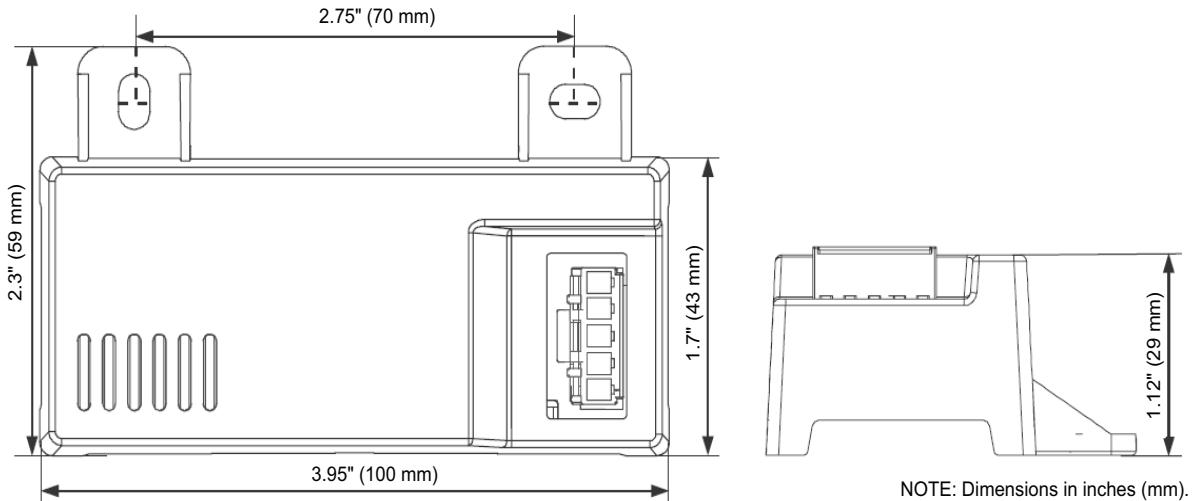
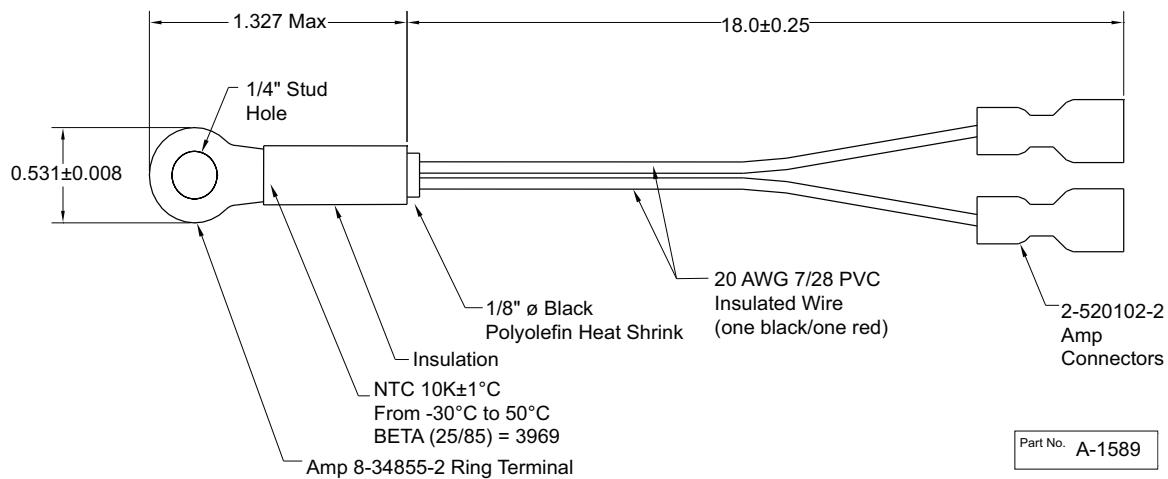
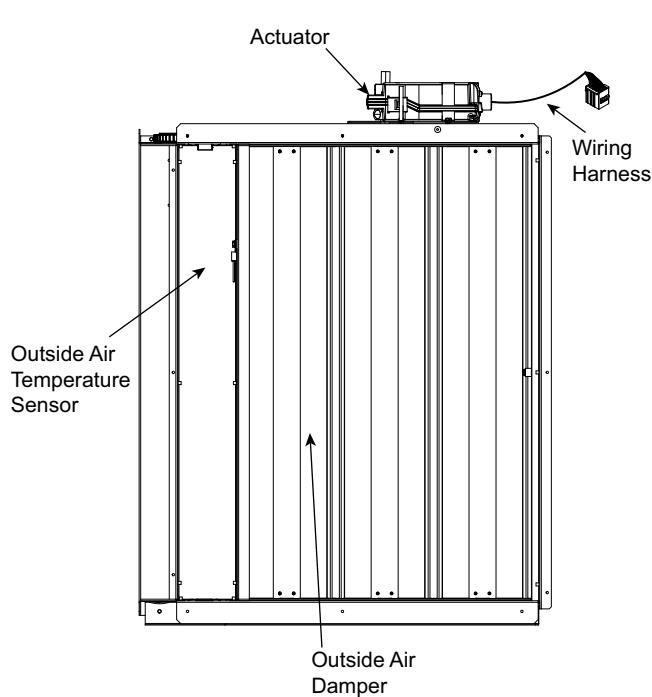

Fig. 90 — HH57LW001 Dimensional, Connection and Switching Information
Fig. 91 — HH79NZ039 Dry Bulb and Mixed Air Sensor Wiring
Fig. 92 — EconomizerONE Component Locations (CRECOMZR108A00 Shown)
When using the HH57LW001 enthalpy sensor (see Fig. 90) for outside air changeover, the existing HH79NZ039 dry bulb sensor (see Fig. 91) must be removed. The enthalpy sensor will be mounted in the same location as the dry bulb sensor (see Fig. 92). When the enthalpy sensor's OA (Outside Air) temperature, enthalpy, and dew point are below their respective setpoints, the outside air can be used for free cooling. When any of these are above the setpoint, free cooling will not be available. Enthalpy setpoints are configurable and create an enthalpy boundary according to the user's input. For additional details, see Fig. 93-94 and Table 27.
The optional enthalpy control sensor (P/N: HH57LW001) communicates with the POL224 economizer controller using the 5-wire harness, 48TC005213. The HH57LW001 sensor can be used as a single outside air enthalpy, a differential return enthalpy, or a differential return temperature sensor. Refer to the base unit control wiring diagrams found earlier in this book to wire the HH57LW001 enthalpy sensor for each option. Use Fig. 90 and Table 29 on page 68 to locate the wiring terminals for each enthalpy control sensor.
Economizers are shipped standard with an HH79NZ039 outside air dry bulb sensor (see Fig. 91). System default setting (high temp limit) is 63°F (17°C) and has a range of 48°F to 80°F (9°C to 27°C). Sensor is factory installed on economizer.
If installing the optional HH57LW001 enthalpy sensor, the HH79NZ039 dry bulb outside air sensor must first be removed. Wire sensor to harness 48TC005213 and the (5) wires from the harness to the EconomizerONE harness in the return air chamber. Harness 48TC005213 has a 5-pin plug that connects directly to the HH57LW001 enthalpy sensor. Refer to the base unit control wiring diagrams earlier in this book for wiring connections. Refer to Fig. 90 and Table 29.